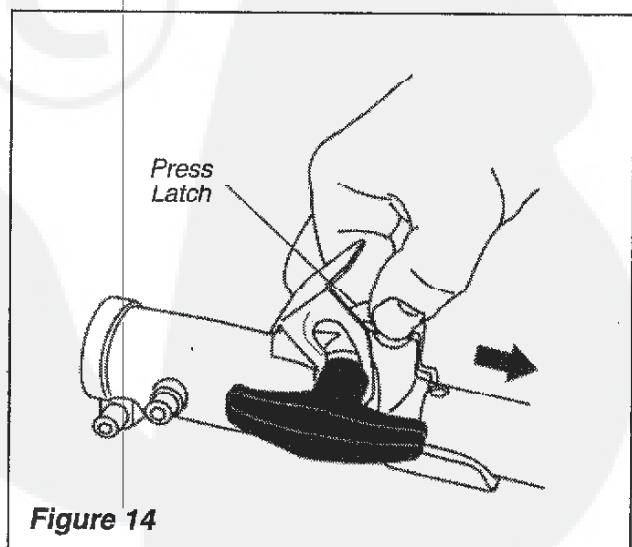

Figure 14
2. Press down on the latch with your finger or thumb. This releases the coupler lock. See Figure 14.